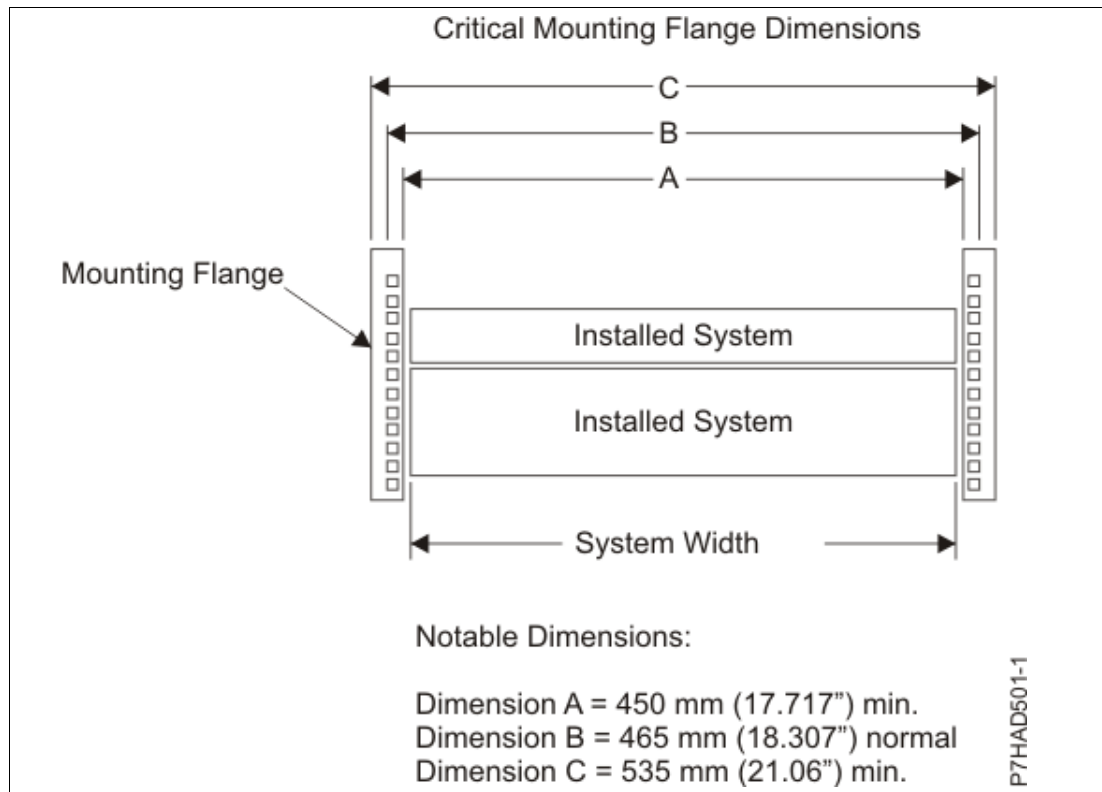

Figure 3-16 Mounting flange dimensions
- ▶ The rail-mounting holes must be $465 \text{ mm} \pm 0.8 \text{ mm}$ ($18.3 \text{ in.} \pm 0.03 \text{ in.}$) apart on-center (horizontal width between the vertical columns of holes on the two front-mounting flanges and on the two rear-mounting flanges), as shown in Figure 3-16.